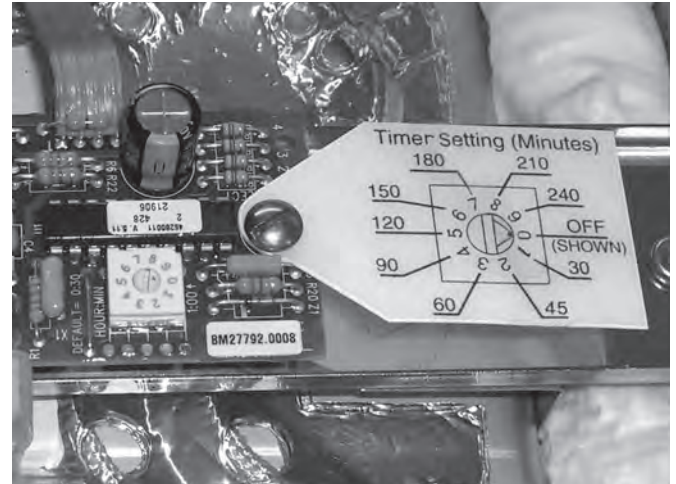

FIG 15 TIMER & TAG
Timer may be set to the OFF position as shown on Tag (Fig 15) to prevent the LED on the front of the server from flashing, or one of nine various settings to flash the LED after Timer has expired. For instance, setting Timer on position 5 will flash the LED after 120 minutes. Server must be docked on a SH Brewer or SH Server Stand to engage Timer.
- Refer to the Timer Setting Tag (Fig 15) to determine the desired timer setting number.